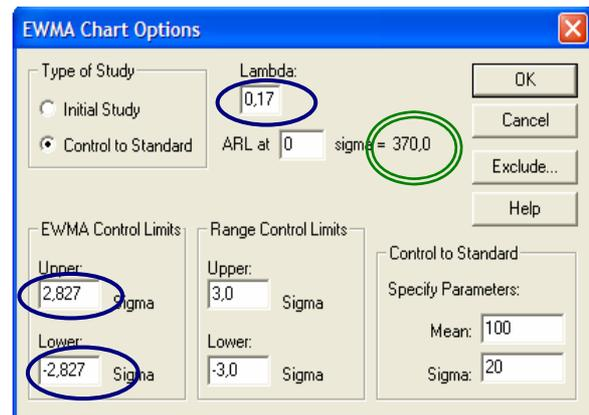

Figure 9 – Step B6 of the example solution
6. Because obtained $ARL(0)$ is different from value 370, we try to change precision of the parameter K to produce $ARL(0)$ closer to 370. We left $\lambda = 0,17$ and we change K from 2,83 to 2,827 and after that $ARL(0)$ is exactly 370 (see Fig. 9). We consider $\lambda = 0,17$ and $K = 2,827$ to be optimal values that give minimal $ARL(\delta)$.